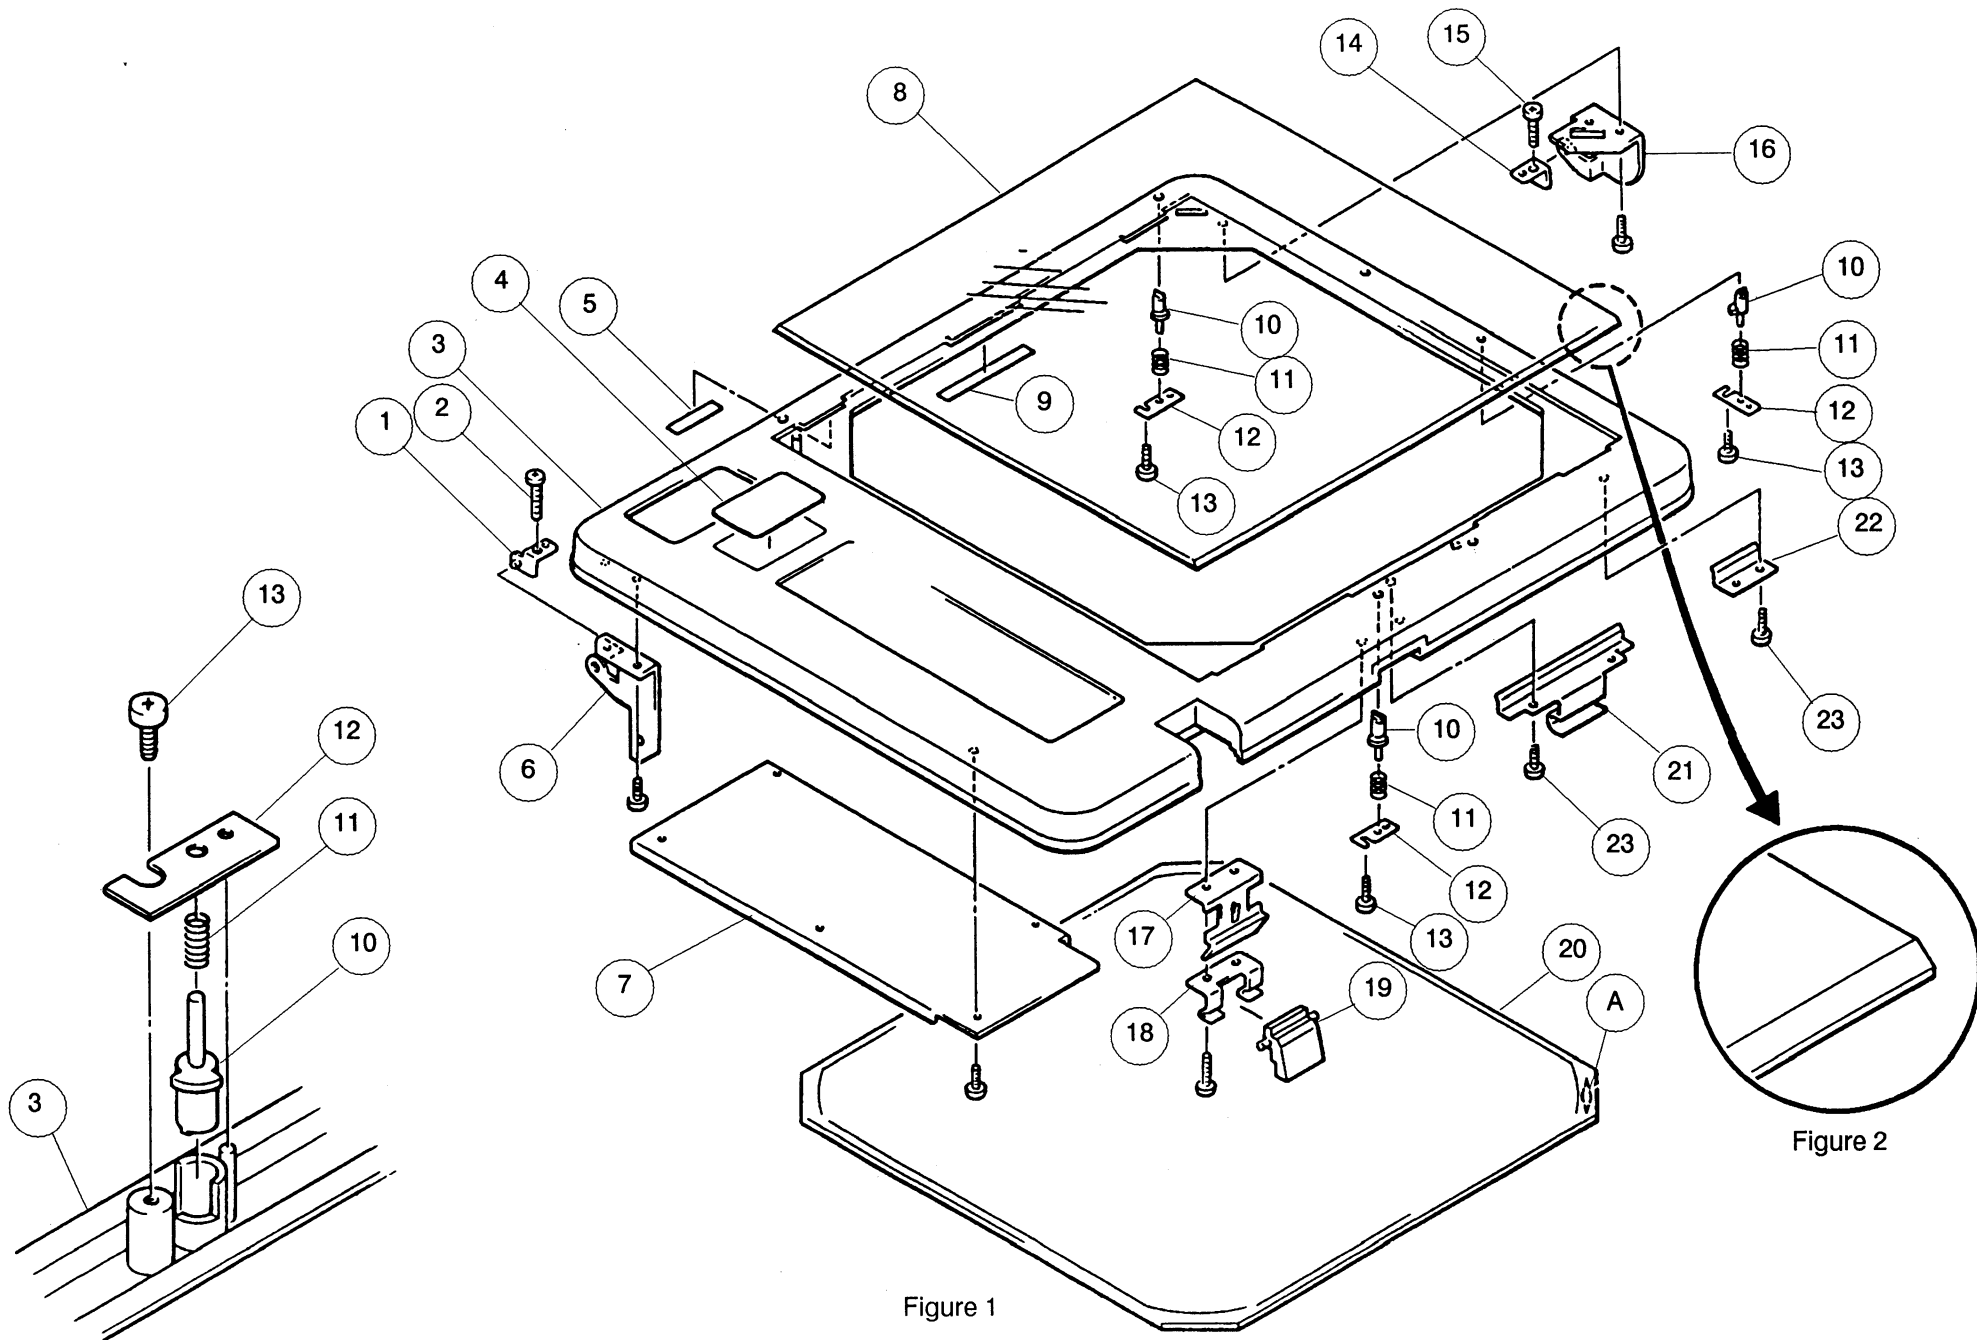

Figure 1
1. Raise the stage frame (3) and remove the fresnel lens (20). (Fig. 1)
2. Remove the two screws (2 and 15) that secure the left and right hinge assembly holders (1 and 14). (Fig. 1)
4. Set the stage frame face down on a protected surface and remove the screws (23) that secure the stage glass springs (21 and 22). (Fig. 1)
Note: For further disassembly of the stage frame, refer to figure 1.